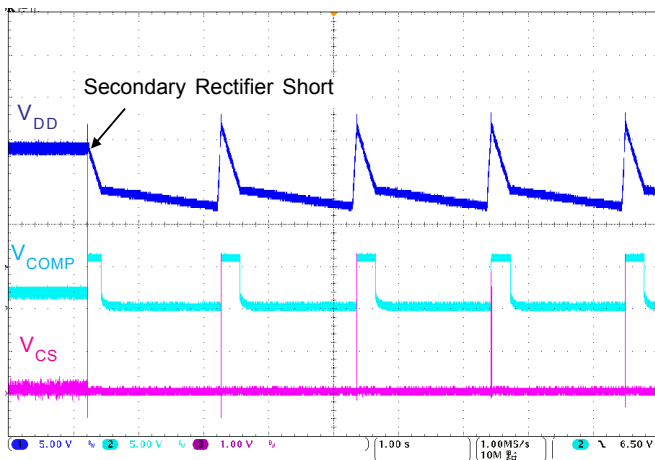

Figure 2. Secondary Rectifier Short Protection
- Secondary Rectifier Short Protection** : As shown in Figure 2. The current spike during secondary rectifier short test is extremely high because of the saturated main transformer. Meanwhile, the transformer acts like a leakage inductance. During high line, the current in power FET is sometimes too high to wait for a 56ms OLP delay time. To offer better and easier protection design, the R7779 shuts down the controller after couples of cycles before fuse is blown up.